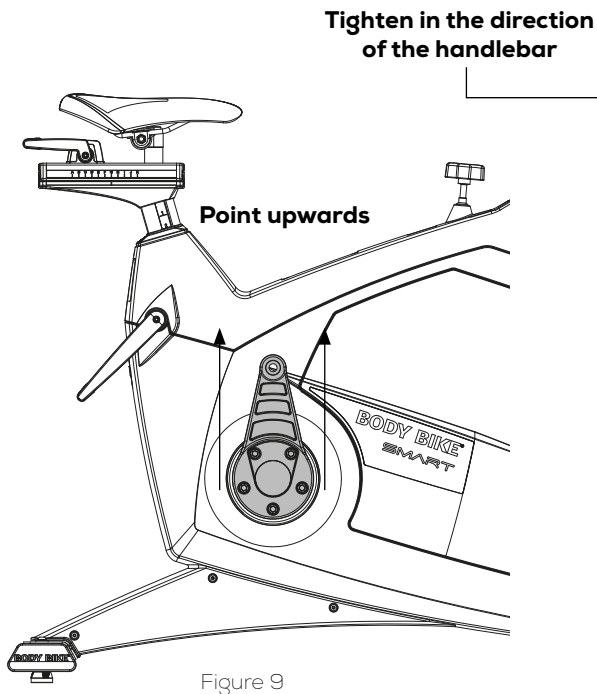

Figure 9
1) Place the right pedal arm with the socket pointing upwards, see figure 9.